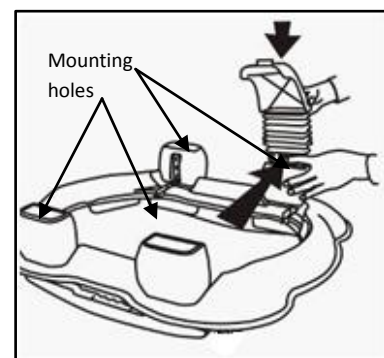

Figure 1
- Press each leg button and insert the leg firmly into the mounting hole at the base as per **Figure 1**.